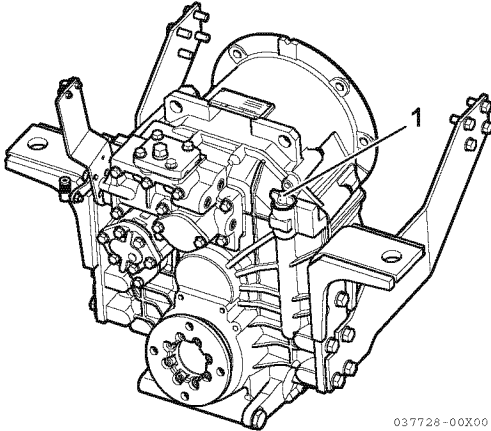

Figure 3
9. Remove the dipstick (1, **Figure 3**). Fill with the following quantities of oil, and add the amount required for oil cooler and pipelines.